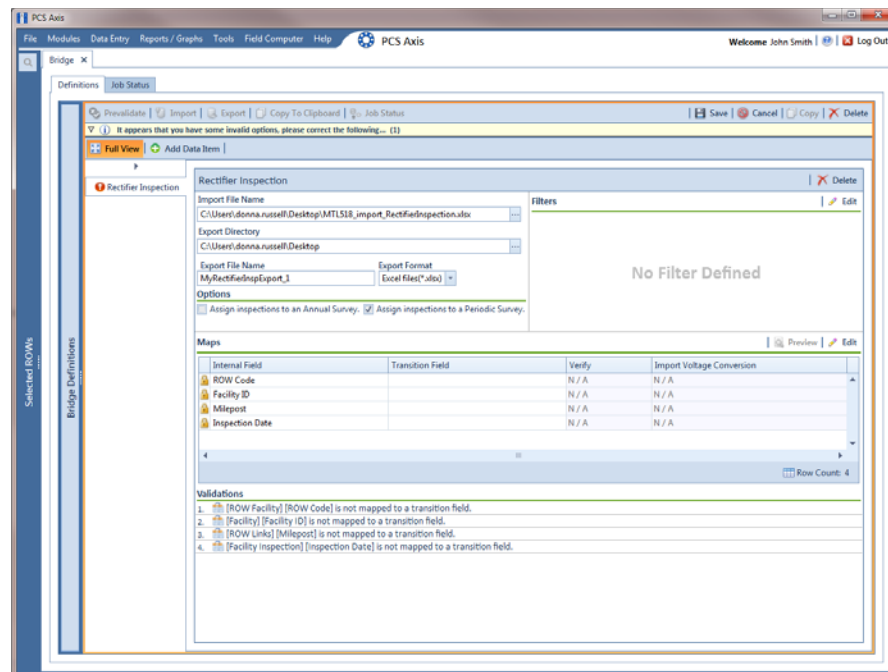

Figure 10-35. Bridge Import Export
- 14 Select a file format and a location to save the export file using the following steps (Figure 10-35, page 489):
- 15 If you want to assign inspections in the import file to a survey folder based on the inspection date, complete one or both of the following steps in the *Options* group box as required (Figure 10-35, page 489).